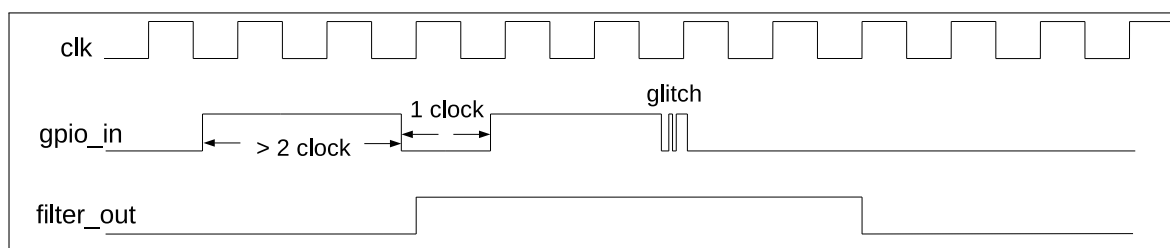

Figure 5.4-2. Filter Timing of GPIO Input Signals
2. Optionally enable the filter for pin input signals by setting the register `IO_MUX_GPIO $n$ _FILTER_EN`. Only the signals with a valid width of more than two clock cycles can be sampled, see Figure 5.4-2.